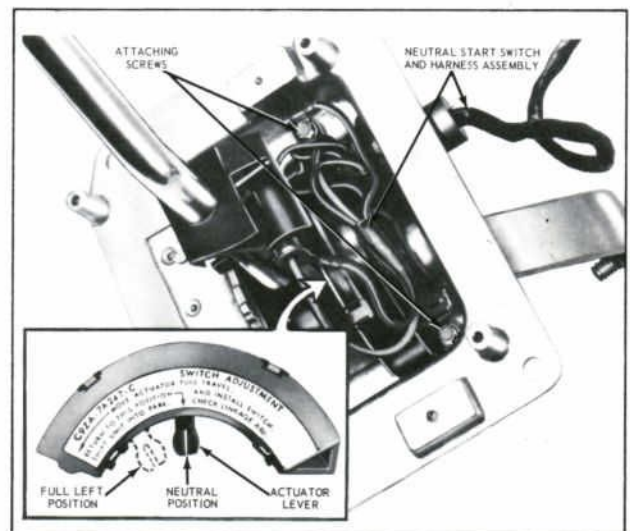

Figure 4—Console Shift Neutral Start Switch—Mustang-Cougar
6. Lift the switch from the housing and move the actuator lever all the way to the left. Then, return the actuator lever to the neutral position as shown in Figure 4.